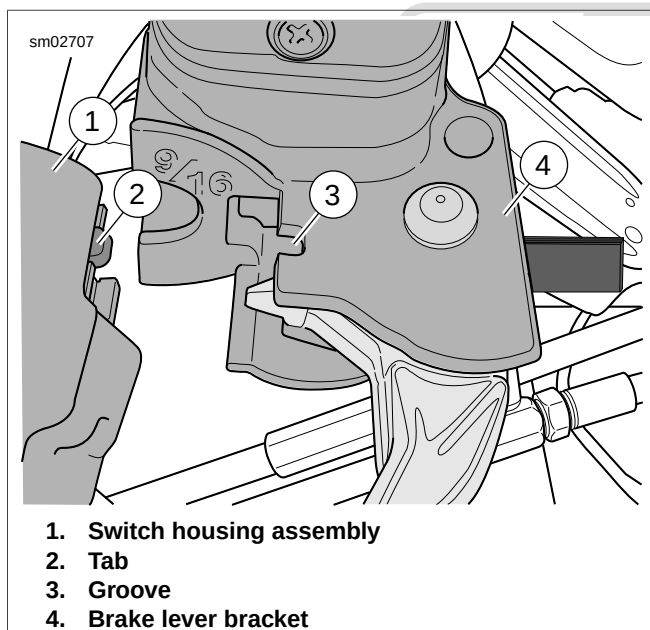

Figure 2-65. Attach Master Cylinder to Right Handlebar Switches
12. See Figure 2-65. Position the brake lever/master cylinder assembly inboard of the switch housing assembly, engaging the tab (2) on the lower switch housing (1) in the groove (3) at the top of the brake lever bracket (4).